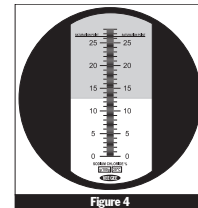
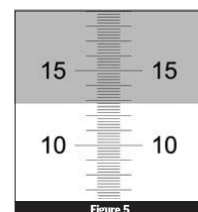

Figure 4
Figure 5
- 4 When the refractometer scale is viewed through the eyepiece, the upper field of view will be seen as blue and the lower field will be seen as white (Figure 4). The reading is taken at the point where the boundary line of the blue and white fields crosses the scale (Figure 5). The value is the Sodium Chloride (g/100g) reading of the sample.